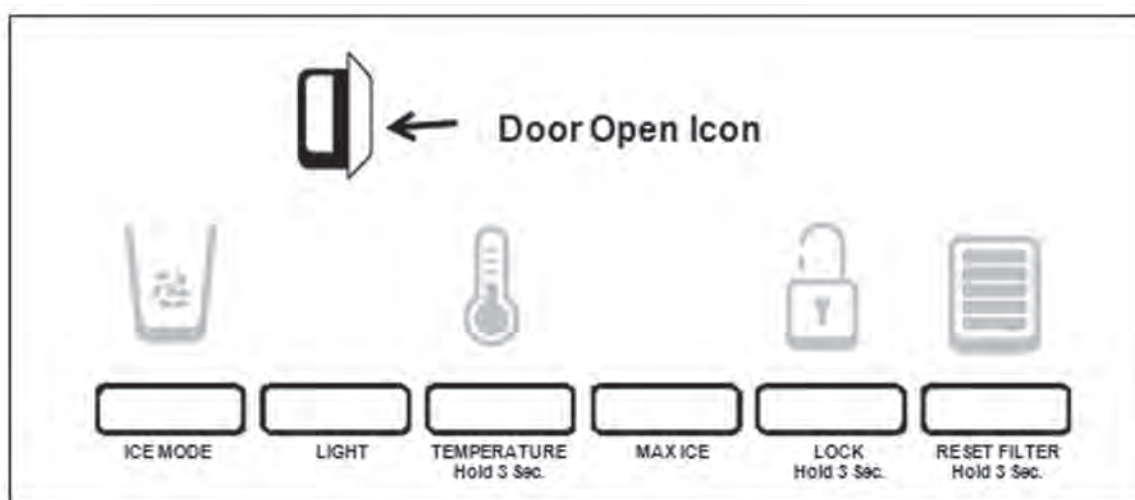

Figure 13
**NOTE:** To mute the audible alarm while keeping the doors open, such as while cleaning the inside of the refrigerator, press any button on the control panel. The alarm sound will be temporarily turned off, but the Door Open icon will still be displayed on the dispenser control panel. See figure 13.